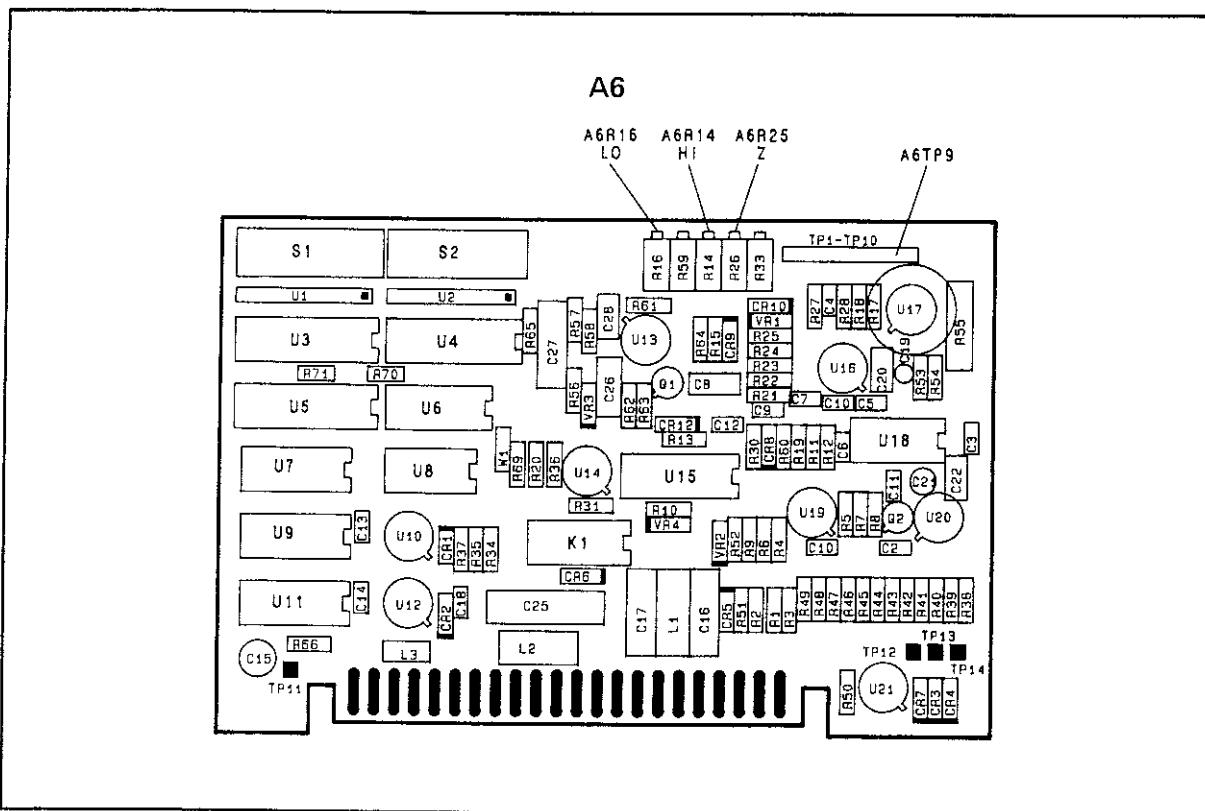

Figure 5-9. Delay Compensation Adjustment Location
4. Adjust "Z" control, A6R26, (Figure 5-9) for the same reading at A6TP9 that was obtained in step 2 above. Iterate steps 2, 3, and 4 until the voltage at A6TP9 is the same for both conditions.
11. Adjust "LO" control A6R16 (Figure 5-9) to minimize the movement between markers while stepping the sweep time between 1 second and 10 milliseconds.
12. Verify that the delay is accurate by manually adjusting the sweep time from 10 milliseconds to 1 second. Reset A6R16 (LO) as necessary to provide the best overall delay setting (minimum delay per change in sweep time). The position of the frequency meter pip should typically stay within  $\pm 61$  MHz as read on the frequency meter across the 10 millisecond to 1 second range.
16. Adjust "HI" control A6R14 (Figure 5-9) to minimize the movement between markers while stepping the sweep time between 1 second and 10 milliseconds.